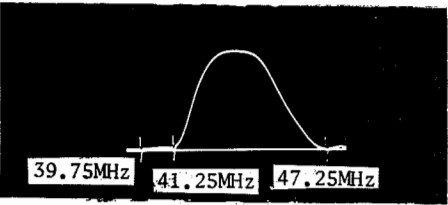

FIGURE 1
41.25MHz	Adjust L205 and 41.25MHz Trap Control (R218) for MINIMUM. See Figure 1.
47.25MHz	Adjust L204 for MINIMUM. See Figure 1.